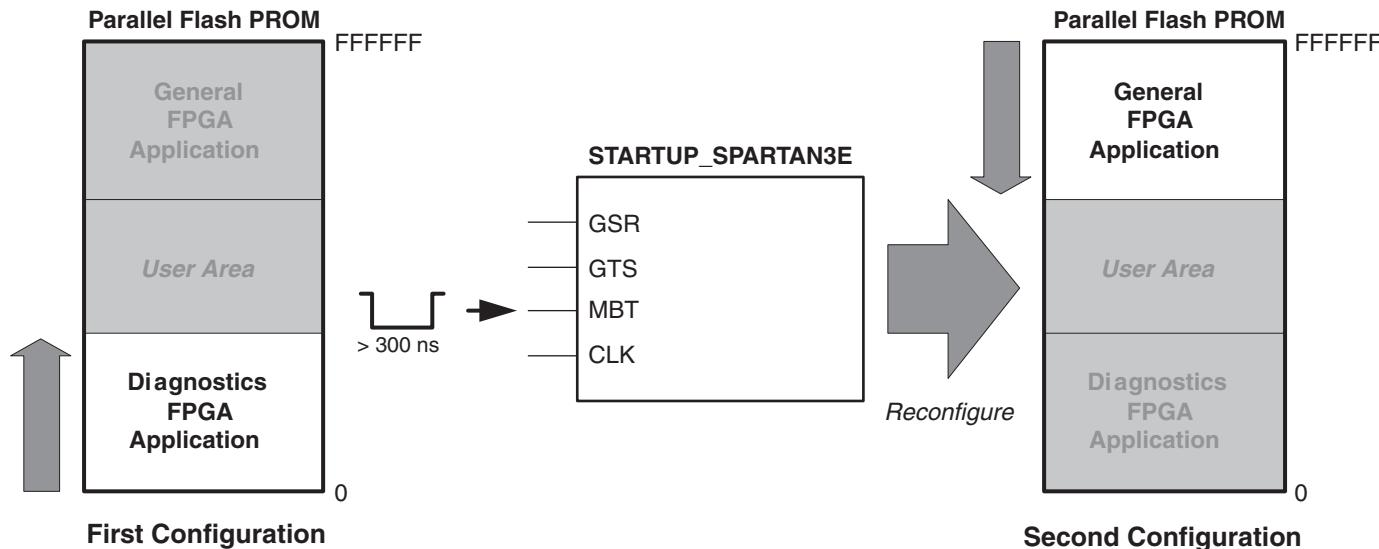

Figure 60: Use MultiBoot to Load Alternate Configuration Images
**Figure 60** shows an example usage. At power up, the FPGA loads itself from the attached parallel Flash PROM. In this example, the M0 mode pin is Low so the FPGA starts at address 0 and increments through the Flash PROM memory locations. After the FPGA completes configuration, the application initially loaded into the FPGA performs a board-level or system test using FPGA logic. If the test is successful, the FPGA then triggers a MultiBoot event, causing the FPGA to reconfigure from the opposite end of the Flash PROM memory. This second configuration contains the FPGA application for normal operation.